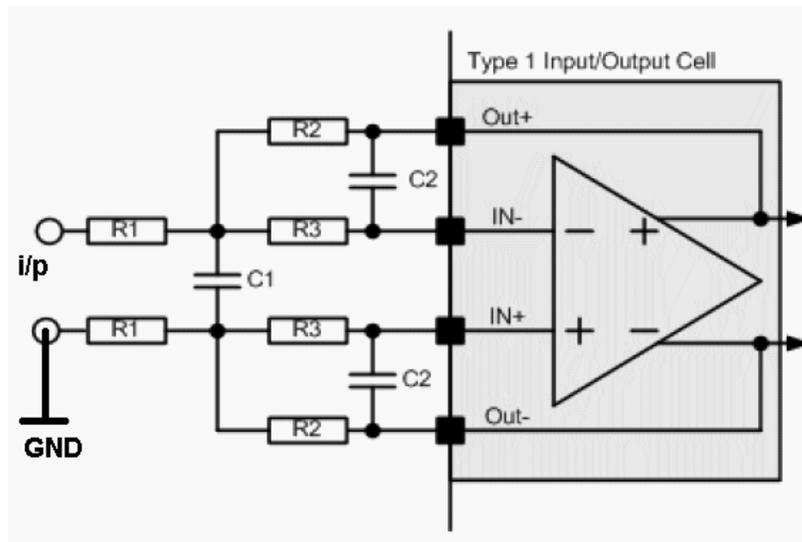

Figure 3: Rauch single-ended low pass filter
The single-ended Rauch filter circuit is shown in figure 3. The components are labelled on the AN231K04 board and the component values suggested above should be added to the board by the user.
1. Create the circuit within AnadigmDesigner®2 (reference Fig 3).